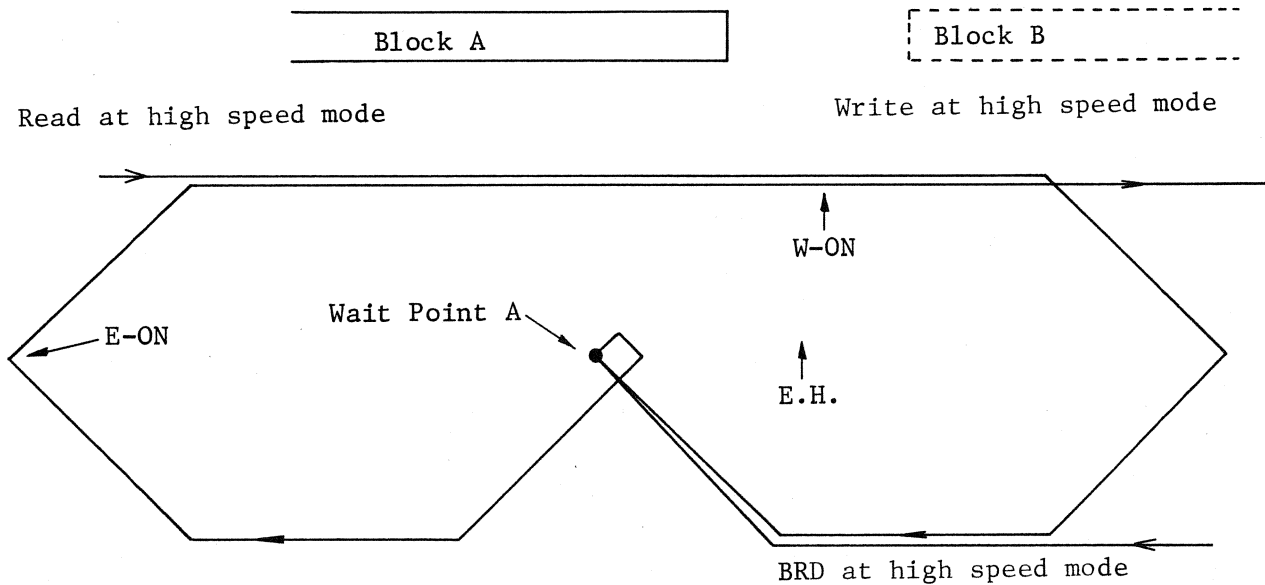

Figure 5.4 Upon changing from Read to Write status
In high speed mode, the Tape is stopped and a response to a change of status request is sent to MTC. Then the operations shown in Figures 5.4 and 5.6 are executed when the Go Tag is set.
- (1) Operation as shown in Figure 5.4 is executed if a Write type command is issued to an MTU which has just processed a Read type command. For example, if set-write-status is specified to the MTU after reading block A, the MTU runs for 6 inches after MTC Go flag is reset. If a block is detected within this length, MTU decelerates and returns to wait point A. Response is sent to MTC (for Set Write Status) from this point. Now, forward hitch is executed when the Go Tag is set. Then the tape is run backwards so that the erase head covers the entire block B (to be erased). After this, the tape is run forward with erase current ON. Write current is off till this point. Write current is turned ON after read head passes over the above block A.
- (2) If a Read Backward type command is issued to an MTU after processing a Write type command, Auto degause is executed after running for a specific length, the tape is run back to the wait point and then a normal backward operation is executed. Therefore additional erase in a normal operation is not required.